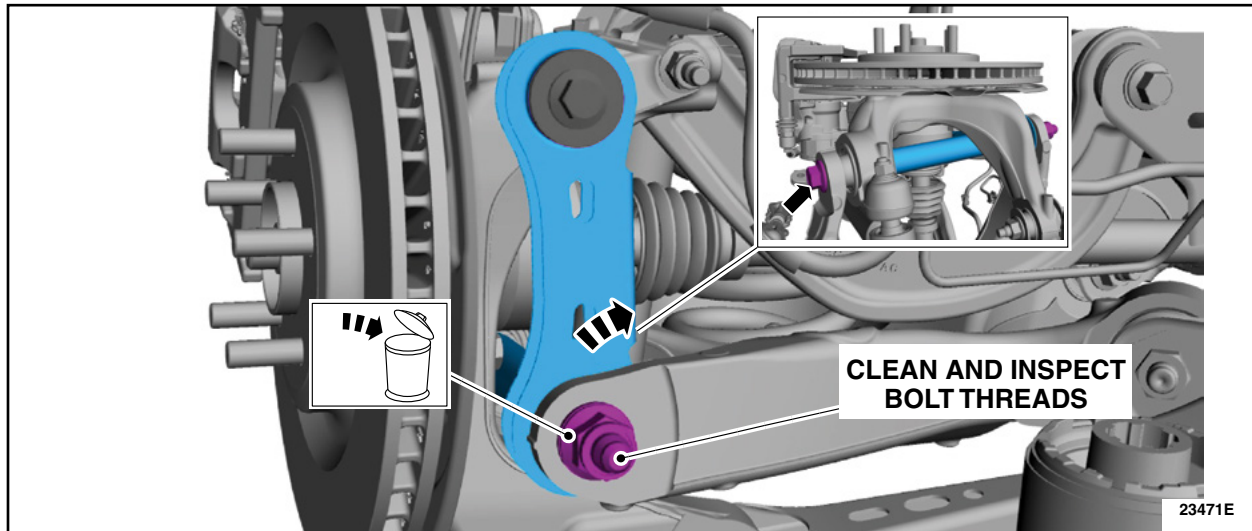

FIGURE 5
9. Remove and discard the lower arm vertical link lower nut. Remove, clean and inspect the lower arm vertical link lower bolt threads. If the threads are not damaged, apply LOCTITE® 263™, or equivalent (Obtain locally), and reuse the bolt and order a *new* nut. If the threads are damaged order a *new* nut and bolt. Position the lower arm vertical link bolt aside. See Figure 5.